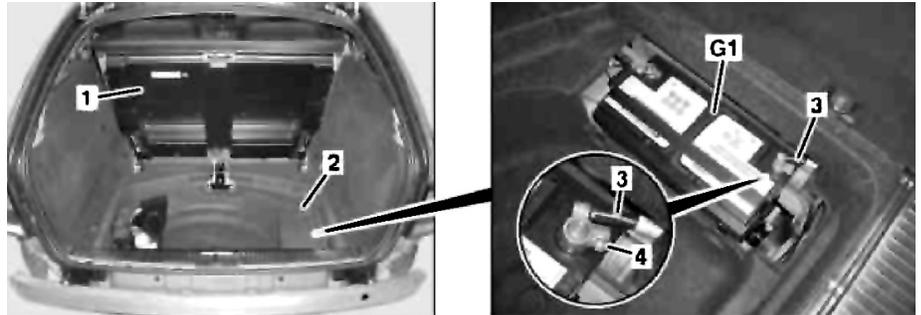

Fig. 1 Primary battery ground removal
2. Fold up load compartment floor (1), **Fig. 1**.
3. Remove cover (2) of battery (G1), **Fig. 1**.
5. Loosen nut (4), and remove ground line (3) from battery (G1), **Fig. 1**.
8. Install ground line to battery. Ensure that ground line (3) is seated tightly, otherwise terminal may be damaged, **Fig. 1**.
10. Install cover (2) of battery (G1), **Fig. 1**.
8. Install ground line (3) to battery (G1), **Fig. 1**.
10. Install cover (2) to battery (G1), **Fig. 1**.